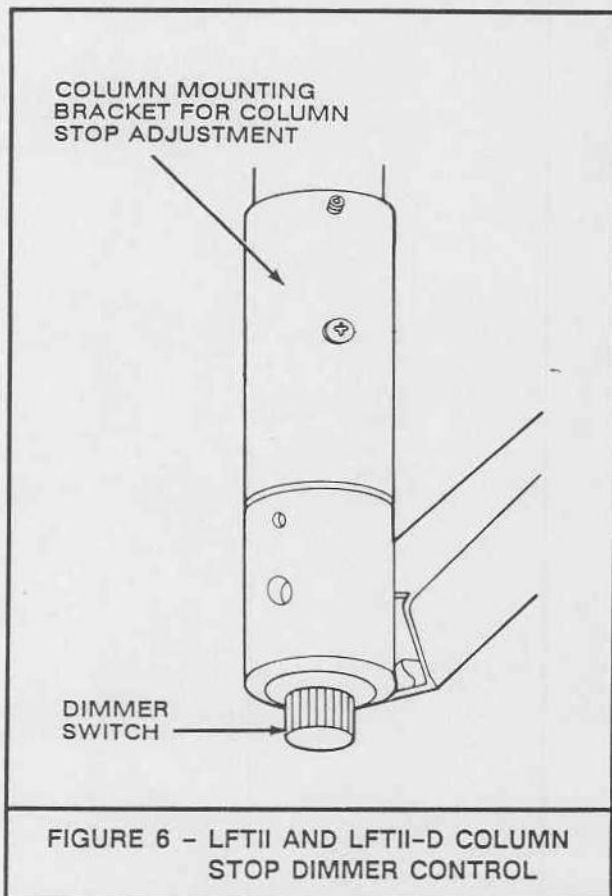

FIGURE 6 - LFTII AND LFTII-D COLUMN STOP DIMMER CONTROL
**1.12 Column Stop (Figure 6)**—The entire arm and light may be rotated approximately 322° with respect to the column. Location of the column stop may be varied to provide optimum operating positions. For adjustment procedure, refer to the Light Fantastic Installation and Adjustment instructions, YL3-096035.
**1.13 Dimmer Control (Figure 6)**—Rotation of the dimmer control light intensity adjustment to be varied from approximately 1500 to 2500 footcandles.